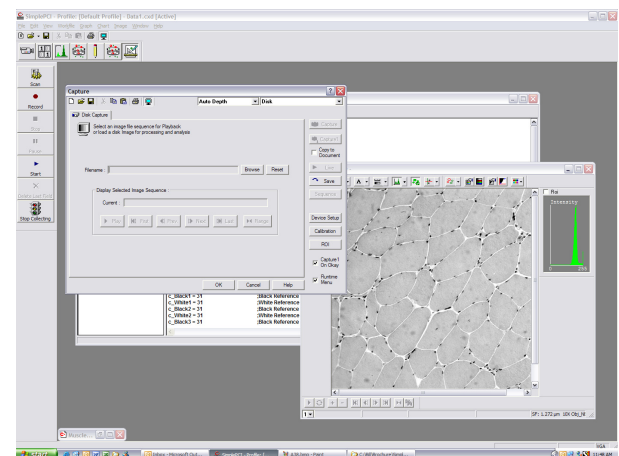

fig.39
12. Click the **Start** icon (**fig.39**) in the **Task** toolbar. The **Capture** window and the **Image Display** appear. Open the **muscle.tif** image if it's not open. Click **OK** on the **Capture** window. The **Workfile** will complete one cycle of the process and return to the **Capture** window. Other images may be open for multiple field analysis. In this example, there is only one image; therefore, click on the **Stop Collect** button to close the **Capture** window and exit the operation loop. Close the **Image Display**.